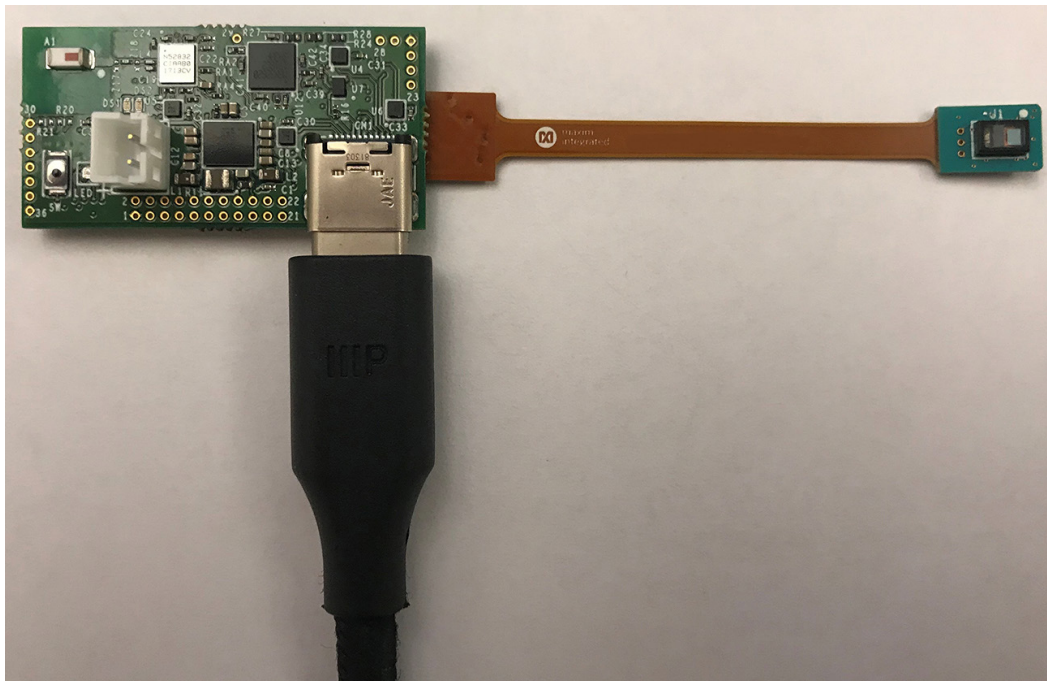
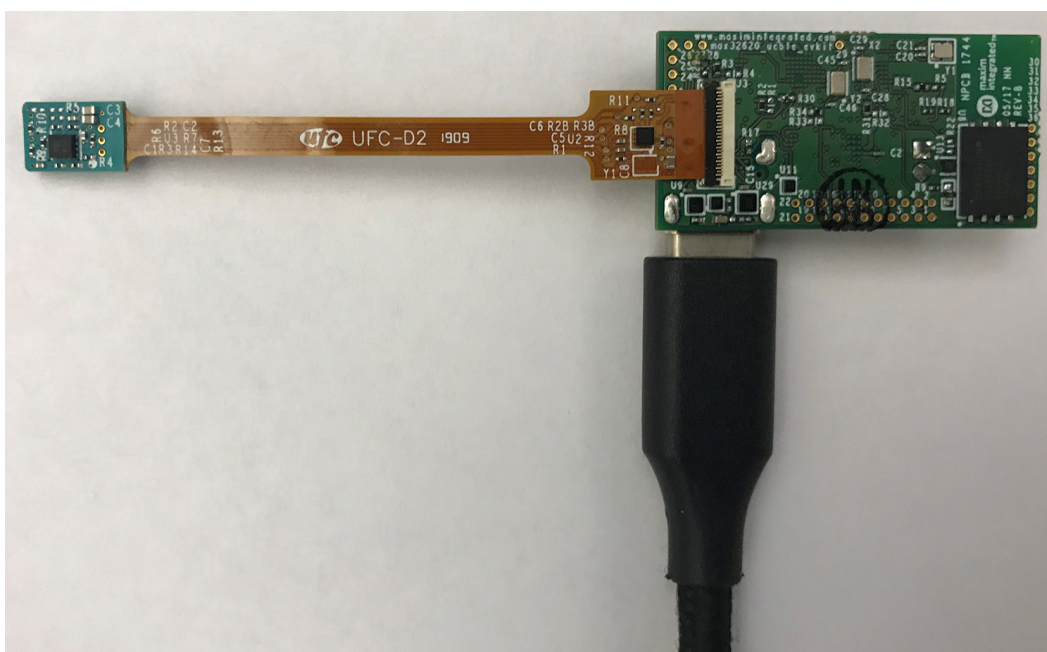

Figure 2. Hardware Setup (MAXM86161 EV System Micro PCB)
Figure 3. Hardware Setup (MAXM86161 EV System Sensor PCB)
- 1) Check that the MAXM86161OSBFLEX Board and the MAXSensorBLE Board are connected as shown in Figure 2 and Figure 3.